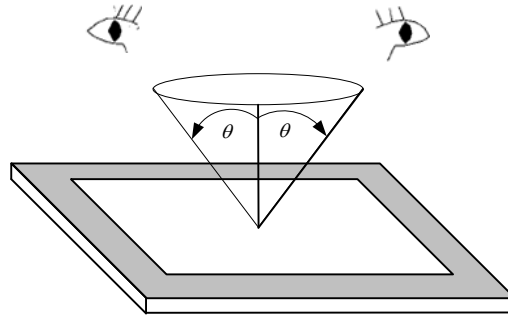

Fig. 11.1
- The viewing zone is defined with angle  $\theta$  shown in Fig. 11.1 The inspection should be performed within 45° when display is shut down. The inspection should be performed within 5° when display is power on.